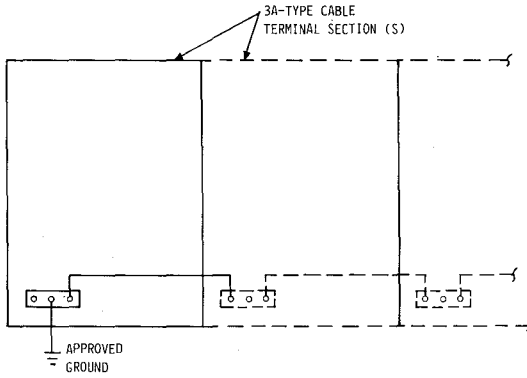
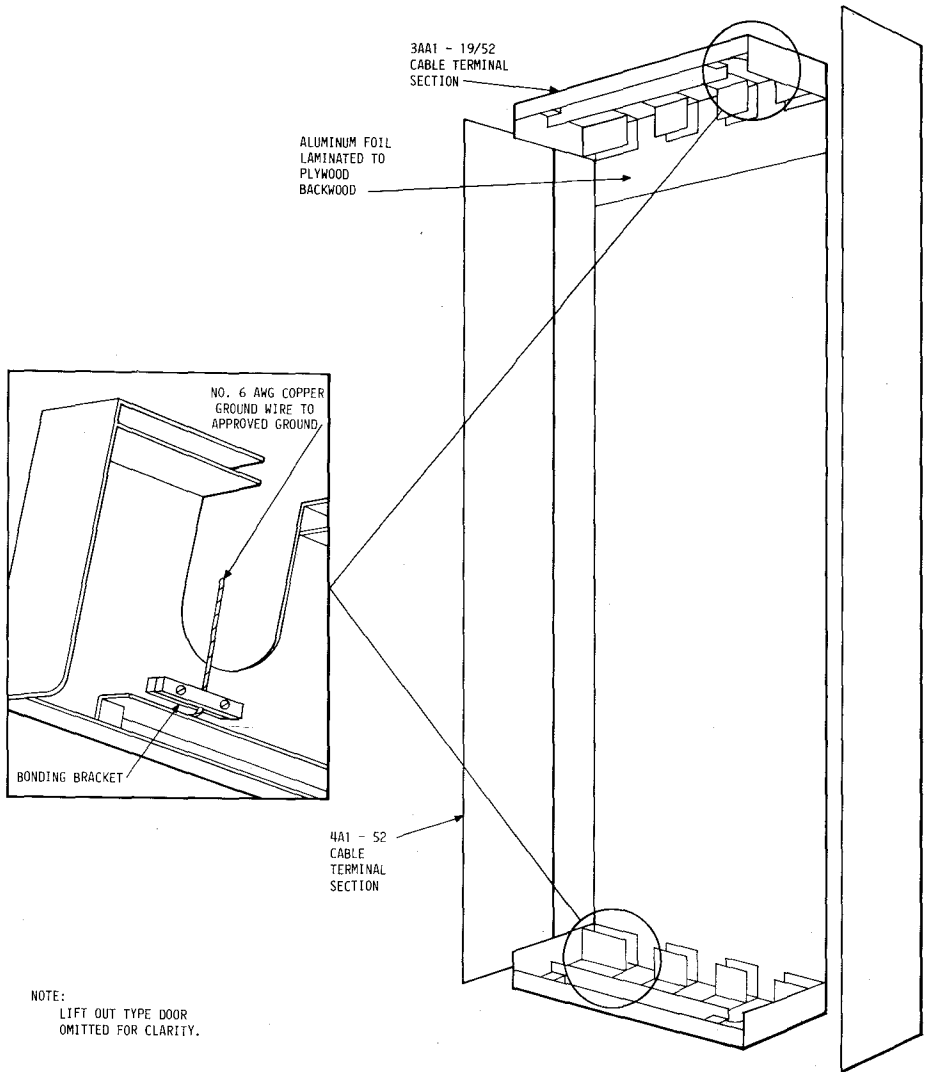

Fig. 17—Bonding 3A- and 4A-Type Cable Terminal Sections
Fig. 18—Bonding of Multiple 3A-Type Cable Terminal Sections
**5.04** →When feeder and intra~~building~~ network cables are terminated on unprotected terminal blocks in 3A- or 4A-type terminal sections, the terminal section must be grounded. There are bonding brackets located on the top and bottom parts of the cable terminal sections (Fig. 17). Either bonding bracket may be grounded by using a No. 6 AWG copper grounding wire attached to an approved ground. Section 631-400-101 describes the joining of two or more cable terminal sections. Multiple cable terminal sections that are joined should be grounded as shown in Fig. 18. ←